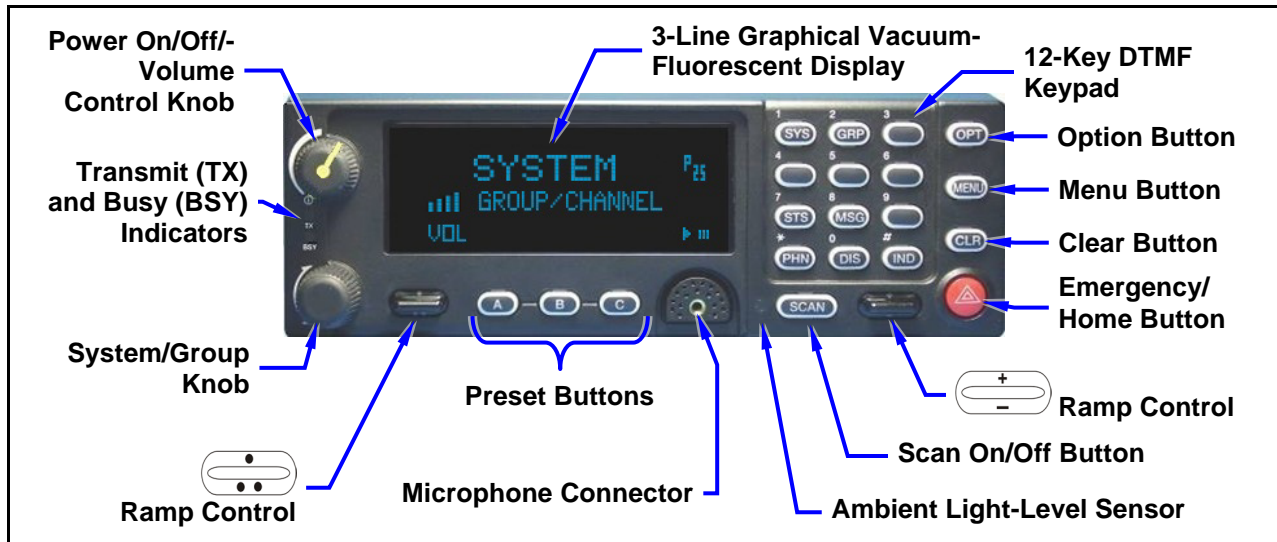

Figure 4-1: CH-721 System Model Control Head
The VRS7000 employs the CH-721 System model control head. Shown in Figure 4-1 on page 26, this control head provides the user/operator interface for the VRS7000. The CH-721 System model control head has a large easy-to-read 3-line graphical vacuum-fluorescent type display, an on/off/volume control knob, menu controls, an emergency/home button, a scan on/off button, and three (3) preset buttons. It also
To turn on the VRS7000, rotate the control head's Power On/Off/Volume control knob clockwise out of the detent position. The knob is shown in Figure 4-1 on page 26. This action powers-up the VRS7000 and the control head. If enabled through programming, a short beep sounds in the speaker to indicate the radio is ready for operation. The control head indicates the last selected system name on line 1 and the last selected group name on line 2.
Use the control head's  ramp control to scroll through the menu until the desired P25 trunked radio network's name appears in the display. This ramp control is shown in Figure 4-1 on page 26. After a short delay, the VRS7000 will switch to the newly selected P25 trunked radio network, and begin operating on it. This is called a "system" change.
1. Enter the "system" number of the respective P25 trunked radio network, per radio programming, via the control head's 12-key DTMF keypad. The front panel of the control head is shown in Figure 4-1 on page 26.